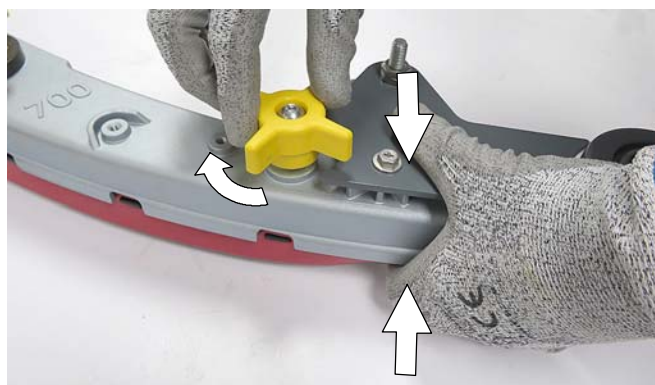

FIG. 140
5. Squeeze the squeegee frame and blade retainer together and re-tighten the star knobs (Figure 140).